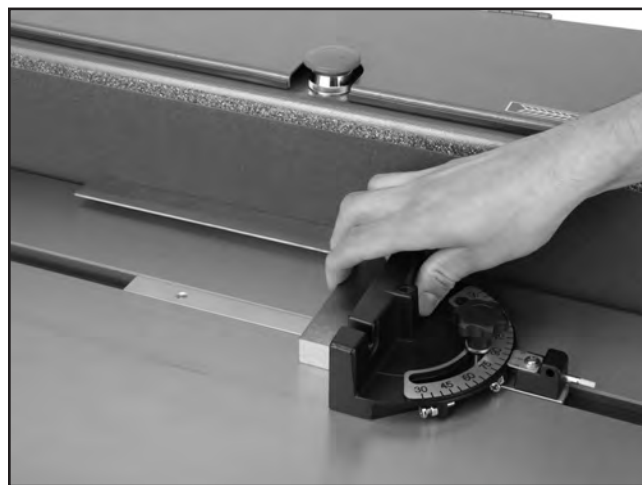

Figure 18. Squaring miter gauge to belt.
1. Use a machinist square with one edge against face of miter gauge and the other against belt face, as shown in **Figure 18**.